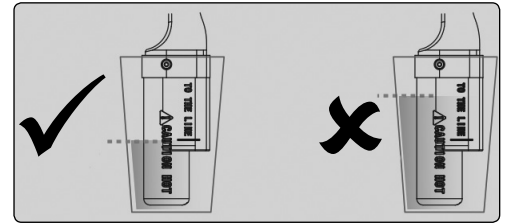

Fig.2
- 4.4. **DO NOT** immerse the heater over the 'To The Line' level, see fig.2.
- 4.6.4.3. **DO NOT** immerse the heater over the 'To The Line' level, see fig.2.